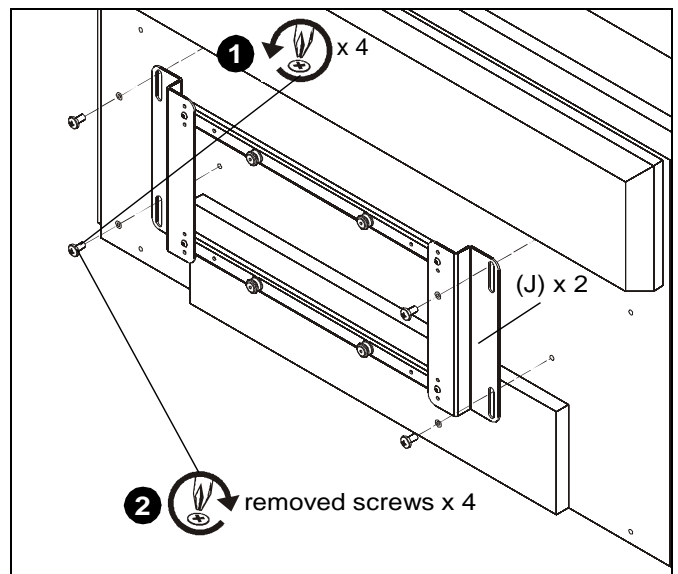

Figure 9
1. Remove the four mounting screws and washers that came installed on the back of the display. (See Figure 9)
2. Use four removed screws and washers to attach side brackets (J) to display. (See Figure 9)